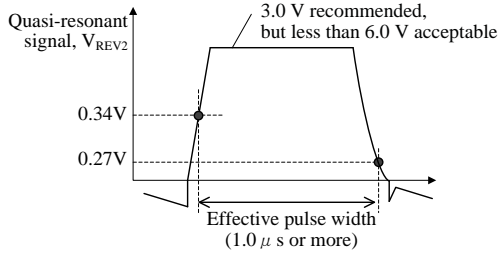

Figure 9-12 The effective pulse width of quasi-resonant signal
- The effective pulse width of quasi-resonant signal is  $1.0\text{ }\mu\text{s}$  or more (refer to Figure 9-12)
power supply specification,  $V_{REV2} < 6.0\text{ V}$  (Absolute maximum rating of the BD pin) and the effective pulse width of quasi-resonant signal is  $1.0\ \mu\text{s}$  or more (refer to Figure 9-12).